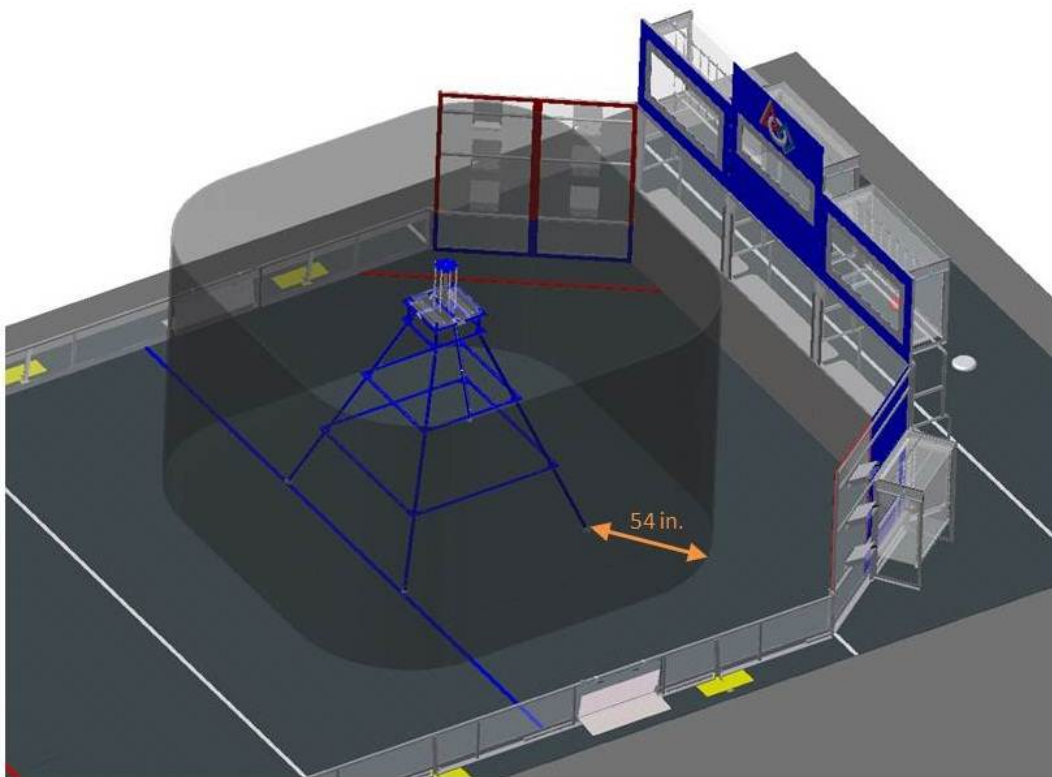
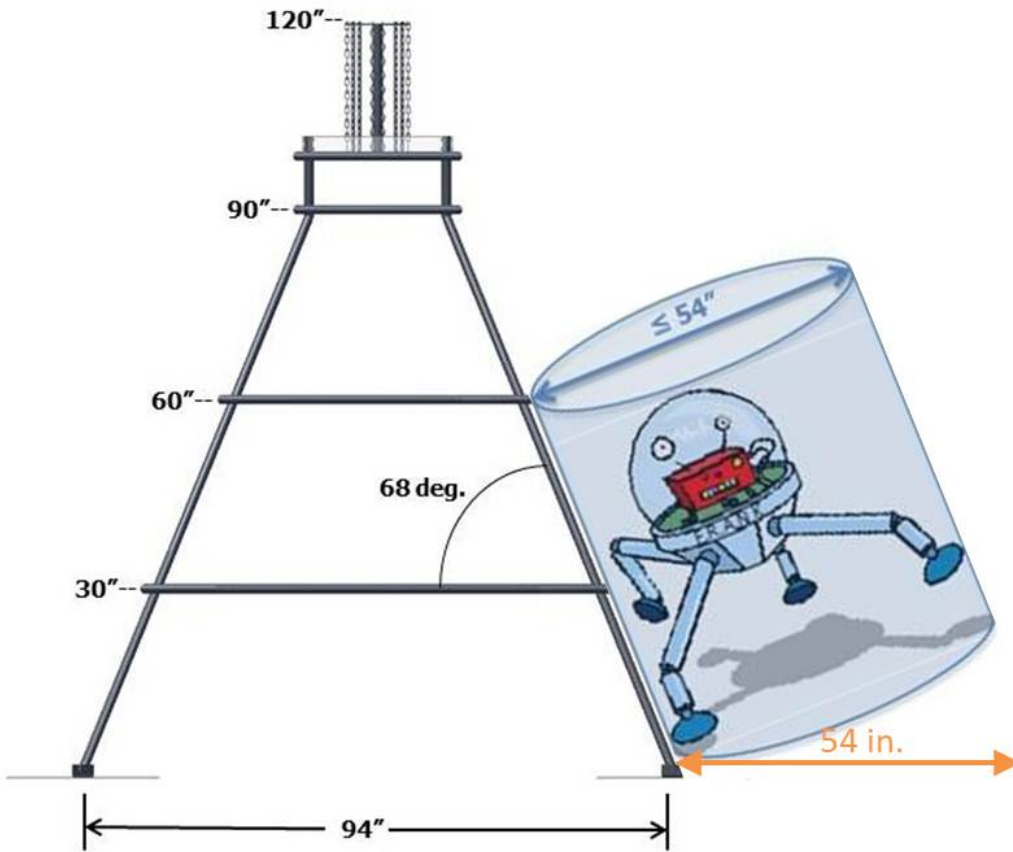

Figure 3-5b: Offset Plane from PYRAMID Base
Figure 3-5c: ROBOT Contacting PYRAMID
- B. may not extend any part of itself beyond a vertical plane defined by a perimeter offset from the base of the PYRAMID by 54 in., see Figure 3-5b and Figure 3-5c.